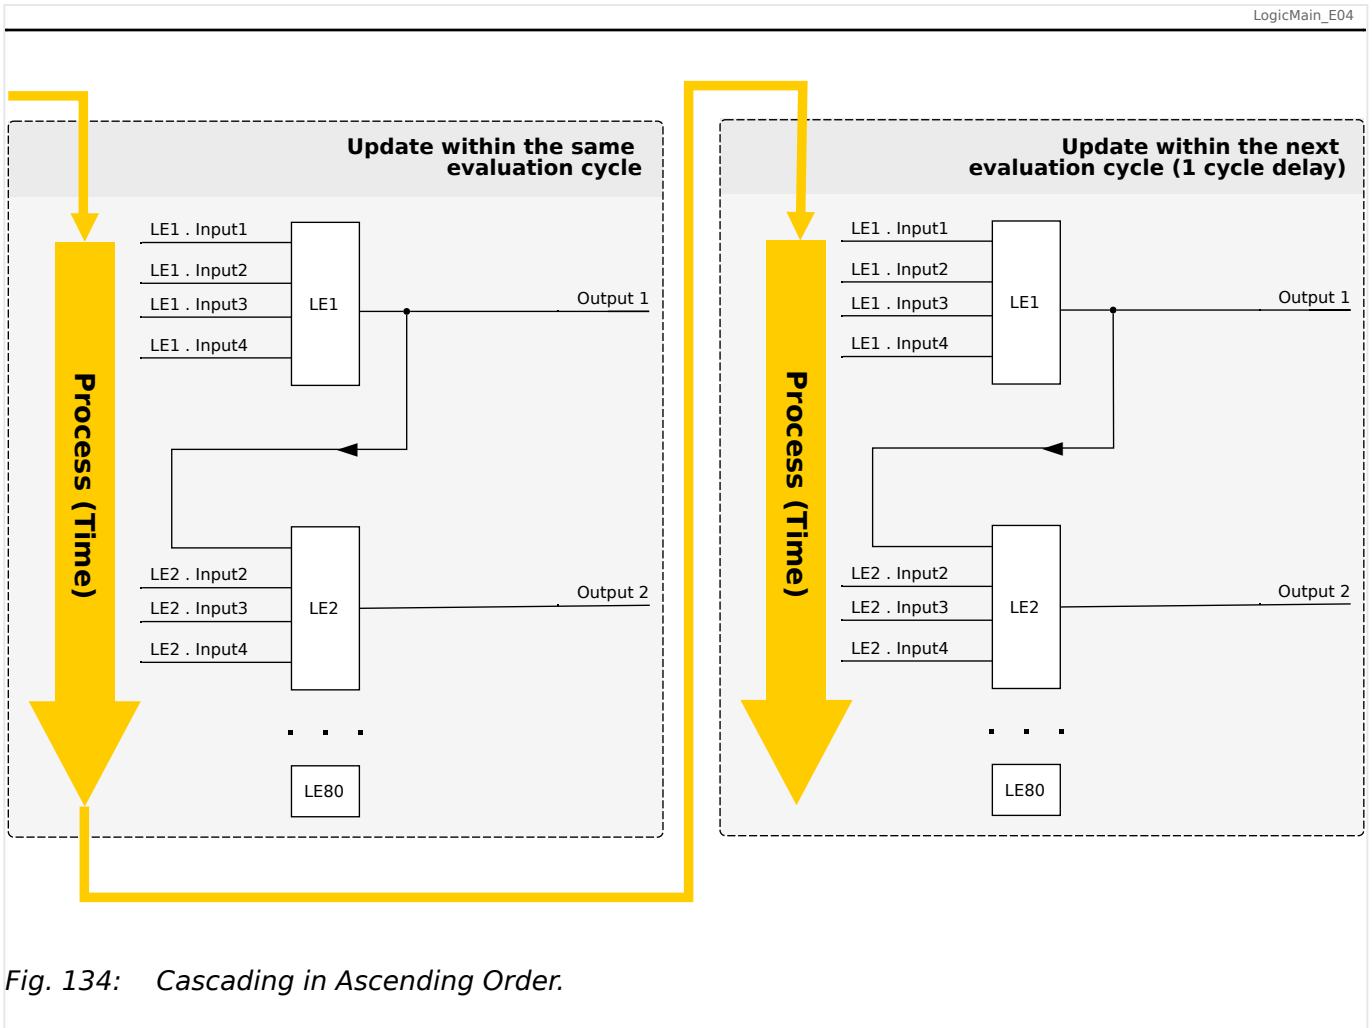
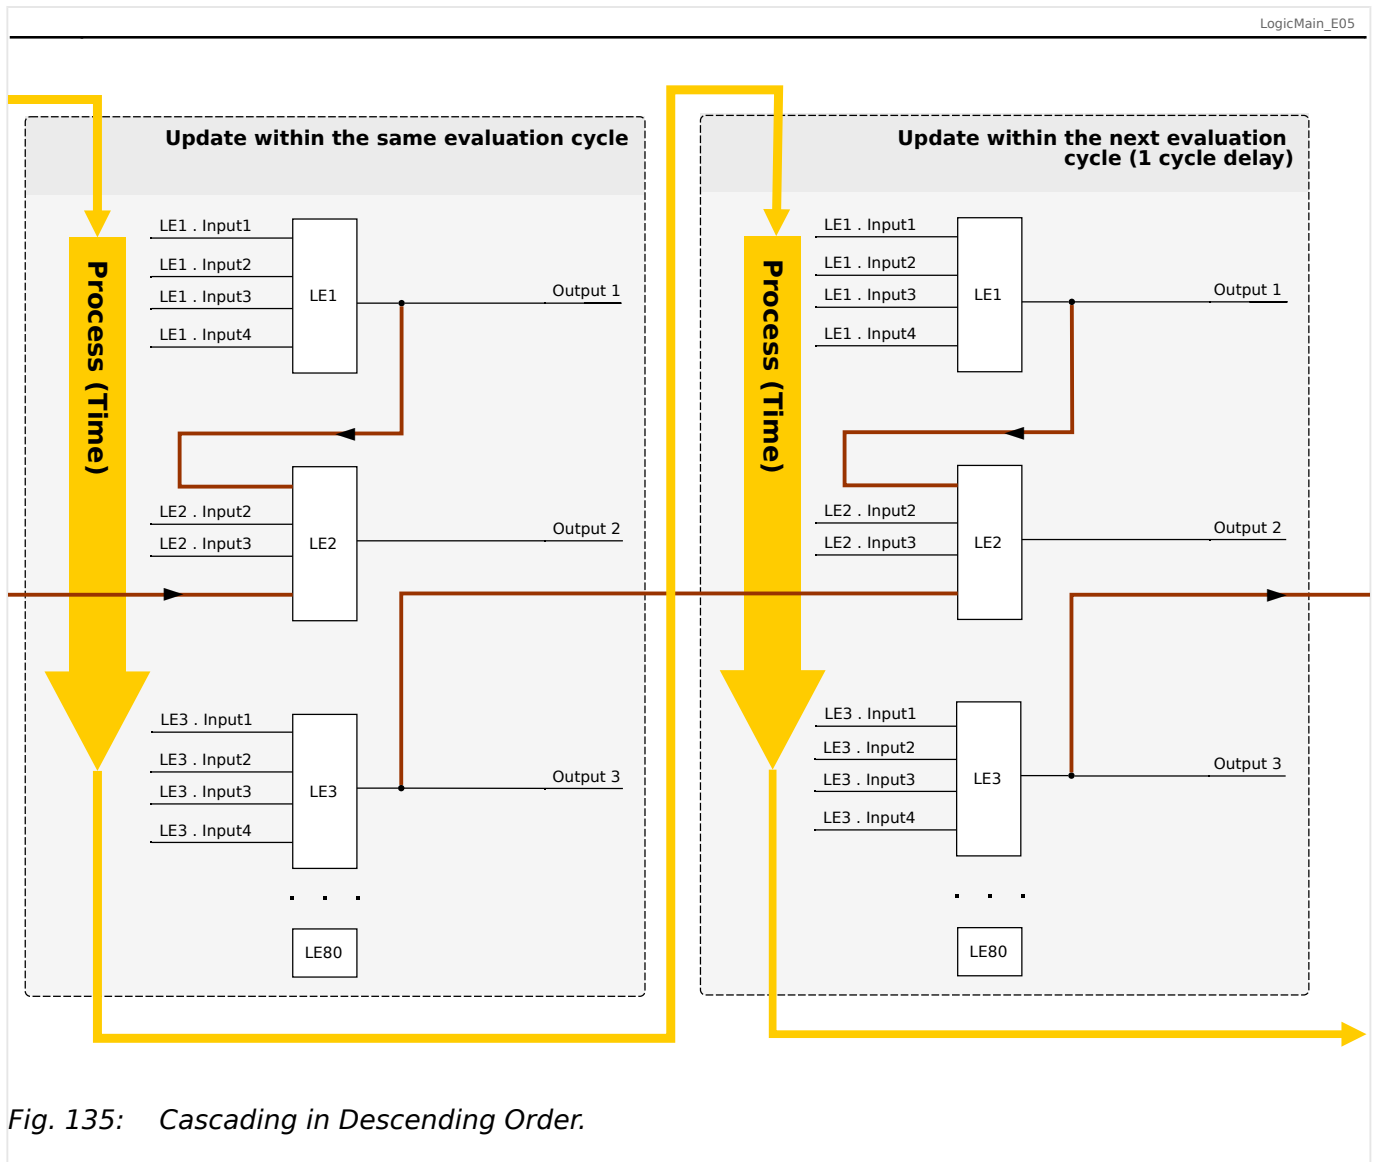

Fig. 134: Cascading in Ascending Order.
Fig. 135: Cascading in Descending Order.
- **Ascending** sequence means that some output is fed into the input of a logic equation with **higher** number. For instance, diagram  Fig. 134 below shows an example where the result of Logic Equation LE1 is used as an input of Logic Equation LE2.
- **Descending** sequence means that some output is fed into the input of a logic equation with **lower** number. For instance, diagram  Fig. 135 shows an example where the result of Logic Equation LE3 is used as an input of Logic Equation LE2.
Both ascending and descending sequences may be used and combined one with the other, with no immediate difference. However, due to the evaluation of all equations in ascending order the actual run-time values that are fed in at the input of an equation will have a different “age”, as is shown in  Fig. 134 and  Fig. 135 below.
In the example shown in  Fig. 135 above, “Logic Equation 2” uses the output states of two other equations, “Logic Equation 1” and “Logic Equation 3”. The result of “Logic Equation 1” is used in ascending order and has therefore been evaluated within the same process cycle. The result of “Logic Equation 3” is used in descending order and has therefore been evaluated in the previous process cycle.